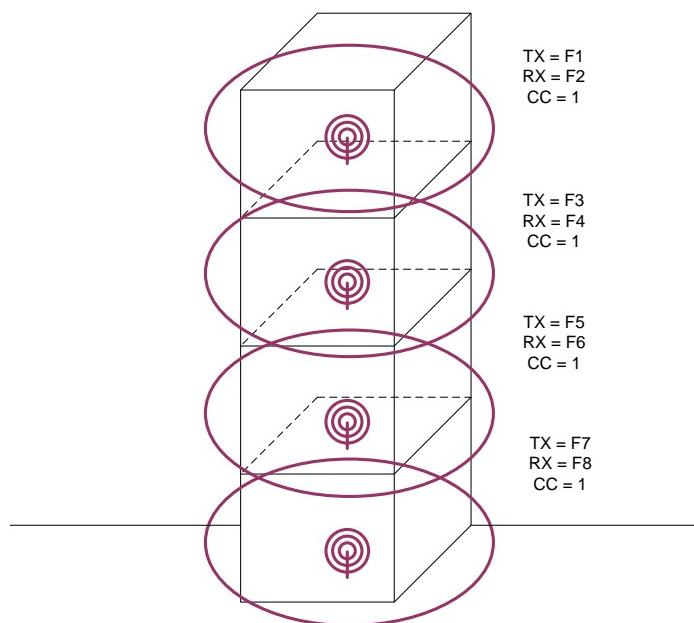

Figure 2-11 Multi-Story Coverage
4. **Multi-Story Building Coverage** – This type of coverage consists of sites that are situated extremely close to each other with short range coverage and overlap across all sites; refer to Figure 2-11. Such coverage is mostly utilized in multi-story buildings, but can be encountered in other man-made structures, such as tunnels, large vessels or underground passageways. Frequency reuse is not common due to the small coverage footprint usually implemented with in-building radiax antenna systems. Users in such RF coverage also often experience quick signal strength drop offs due to the nature of in building coverage. A radio will only be within coverage of one to two sites at a time. The time it takes a radio user to move from the coverage of one site to another is in the range of one minute.